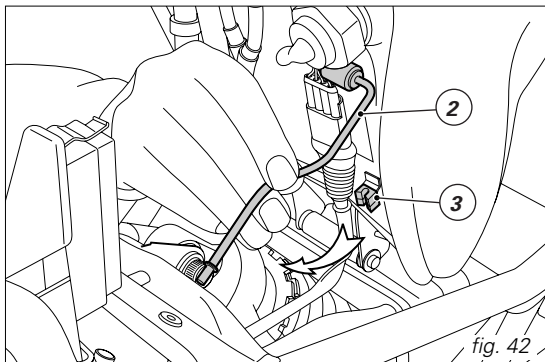

fig. 42
Lift the tank and unhook the service rod (2, fig. 42) from its retainer (3).